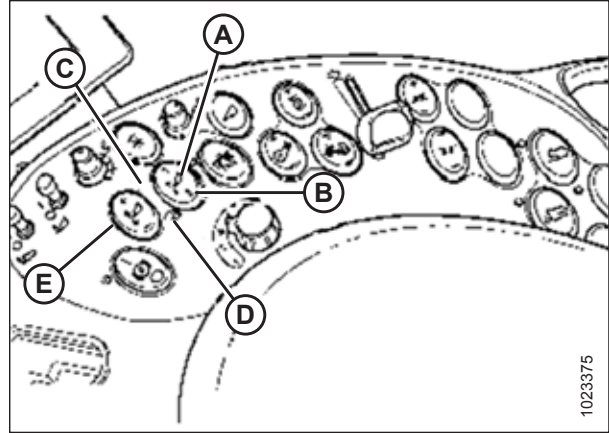

Figure 4.86: Case Combine Controls
You can adjust these set points by using FINE ADJUST switch (E) in Figure 4.86, page 144.